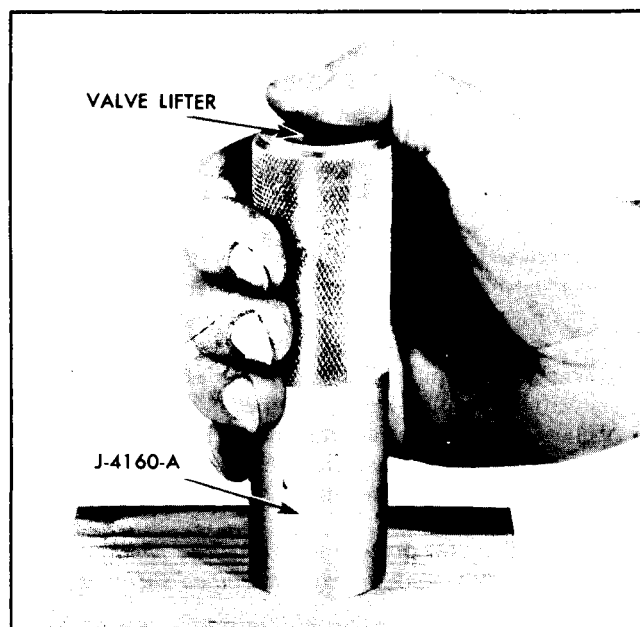

Fig. 6-24 Removing Stuck Plunger
2. Invert lifter and allow push rod seat and plunger to slide out of body. If plunger sticks in body, place lifter in large end of hydraulic valve lifter plunger remover, J-4160-A, with push rod end of lifter downward. Hold tool firmly in hand with thumb over lifter body and sharply strike tool against a block of wood (Fig. 6-24) until plunger falls out. (It may be necessary to soak a lifter having a stuck plunger in cleaning solvent for several minutes in order to remove the plunger).